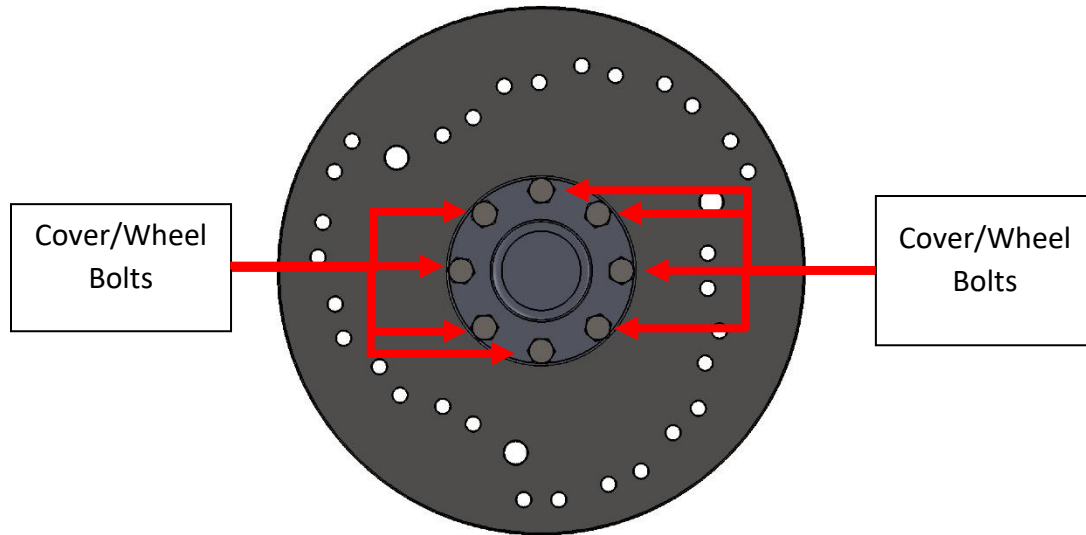

Figure 1.1
1. Remove 8 bolts attaching center cover and wheel to the cutter wheel hub. (Figure 1.1)